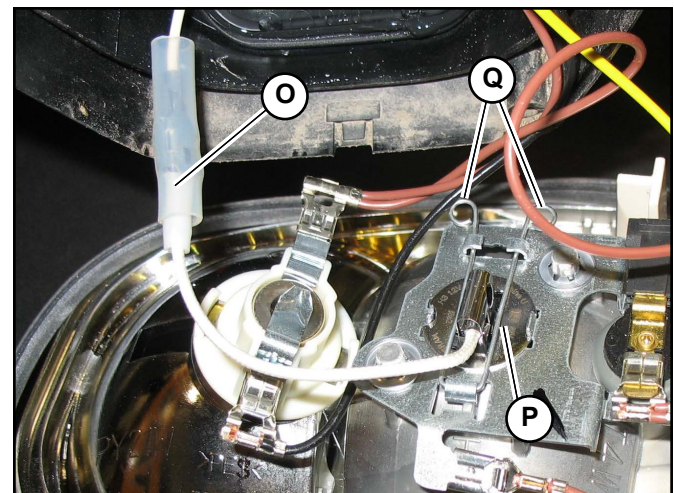

Fig. 244 – Low Beam Bulb
1. Disconnect low beam bulb wire (O, Fig. 244).